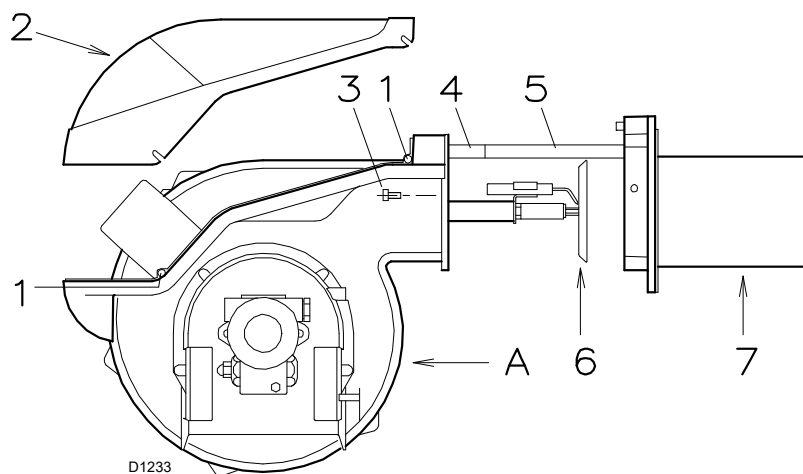

Fig. 48
- Loosen screws 1)(Fig. 48) and withdraw the cover 2);